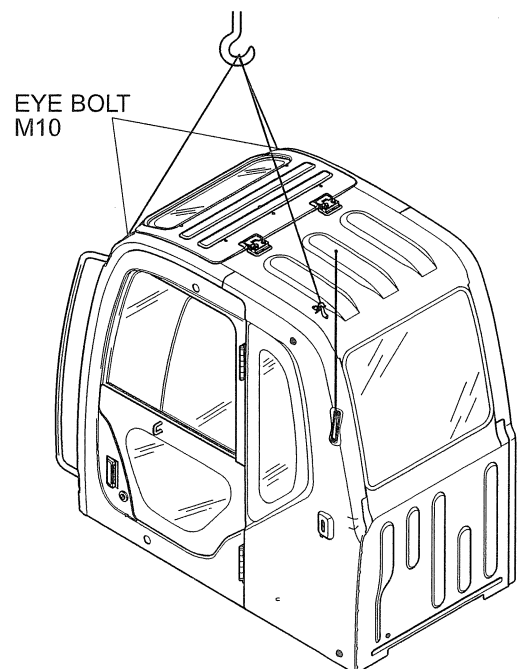

Fig. 33-7 Slings cab
- 1) Remove two plastic plugs at the front of the ceiling of the cab. Then place a wire sling with eye rings and a hook around the cab, as shown in Fig. 33-7.